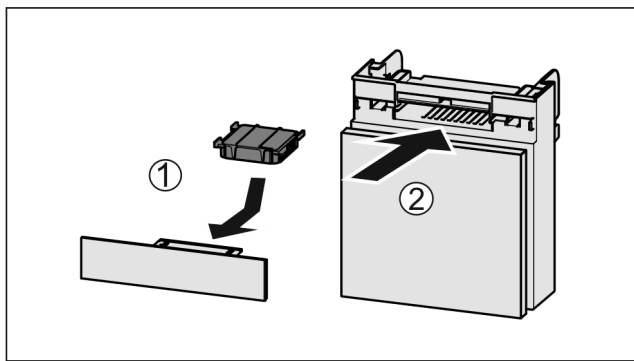

Fig. 77
- ▶ Insert the carbon filter as shown in the diagram Fig. 77 (1).
- ▶ Push the compartment in Fig. 77 (2).